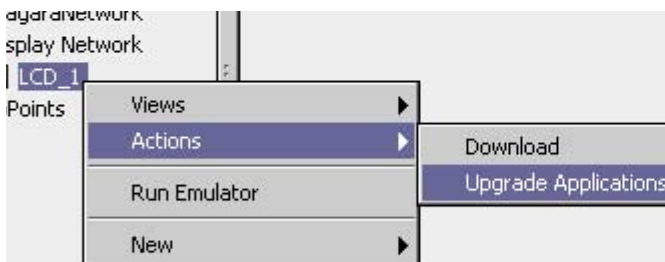

Fig. 45. Upgrade Applications action.
8. Right click on Reveal. Select Actions then select Upgrade Applications. This will initiate the upgrade of the unit (see Fig. 45).